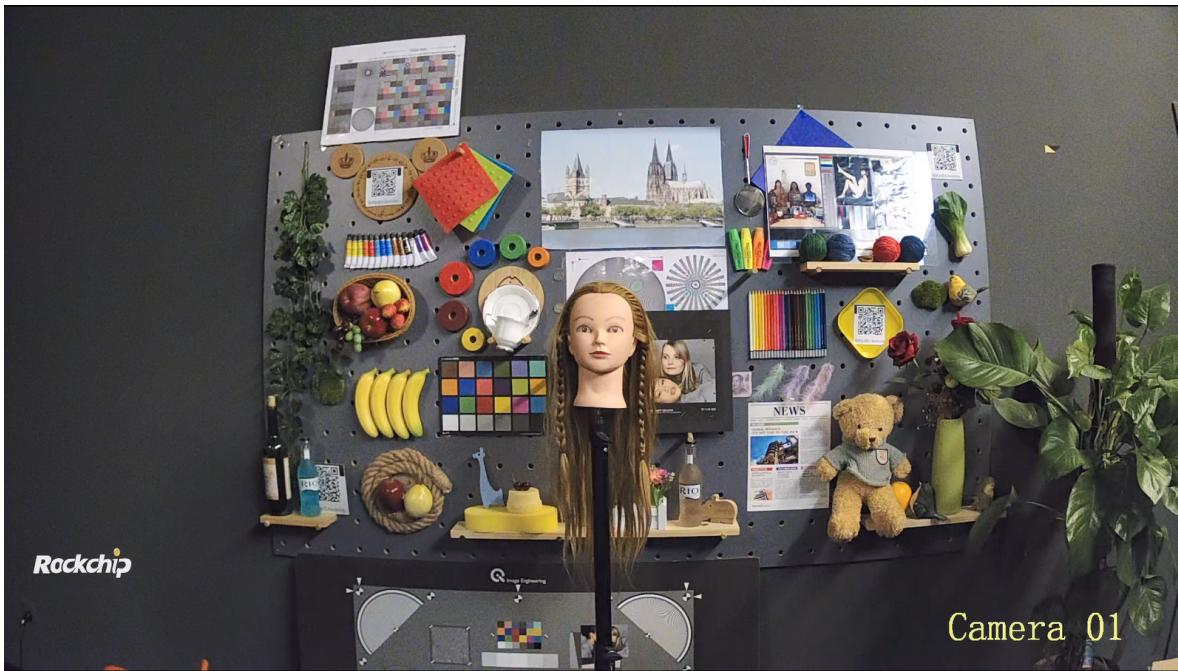

Figure 3-6 Schematic diagram of static scene
Step 3: To adjust the target values of AE under different exposure. For laboratory static scene, AE tuning requirement is that the brightest area in the center of the picture has no obvious over-exposure. As shown in figure 3-6, the texture card and the ceramic coffee cup in the middle should not be over exposed, and the brightness of leaves and roses should be reasonable. The AE target values are mainly related to the params SetPoint, DynamicSetpoint and the selection of AE backlight mode.